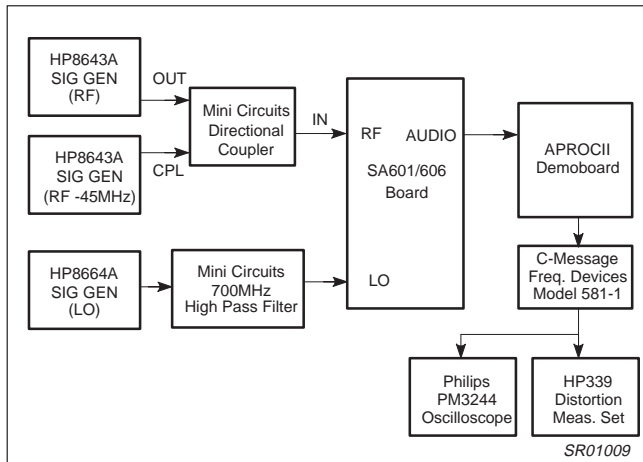

Figure 12. Test Setup for Measuring Transmitter Desensitization Without Duplexer
1. The setup can be configured as shown in Figure 12. Set RF = 869MHz, LO = 957.16MHz and Tx = 824MHz.